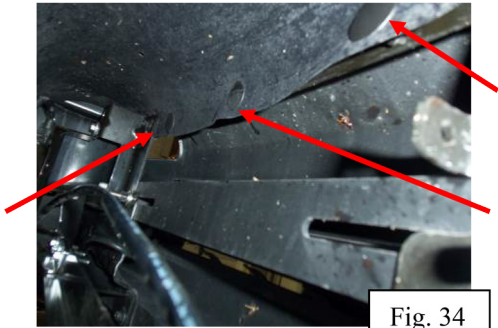

Fig. 34
32. Reinstall three plastic clips holding the rubber air deflector in place that is underneath the heat exchanger (Fig. 34).